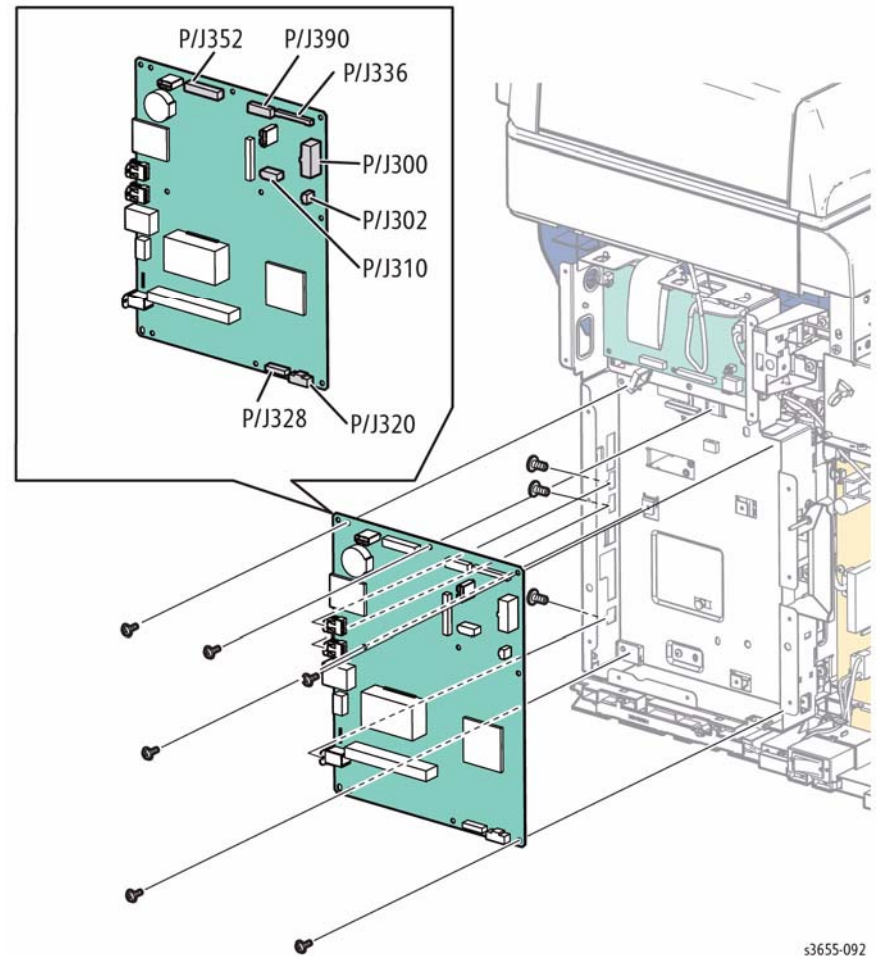

Figure 1 Remove the ESS Board
10. Refer to Figure 1 and disconnect all connections to the ESS Board, then remove 5 screws (silver, with a washer, M3, 6mm), 3 screws (silver, M4, A6mm) that secure the ESS Board to the ESS housing.